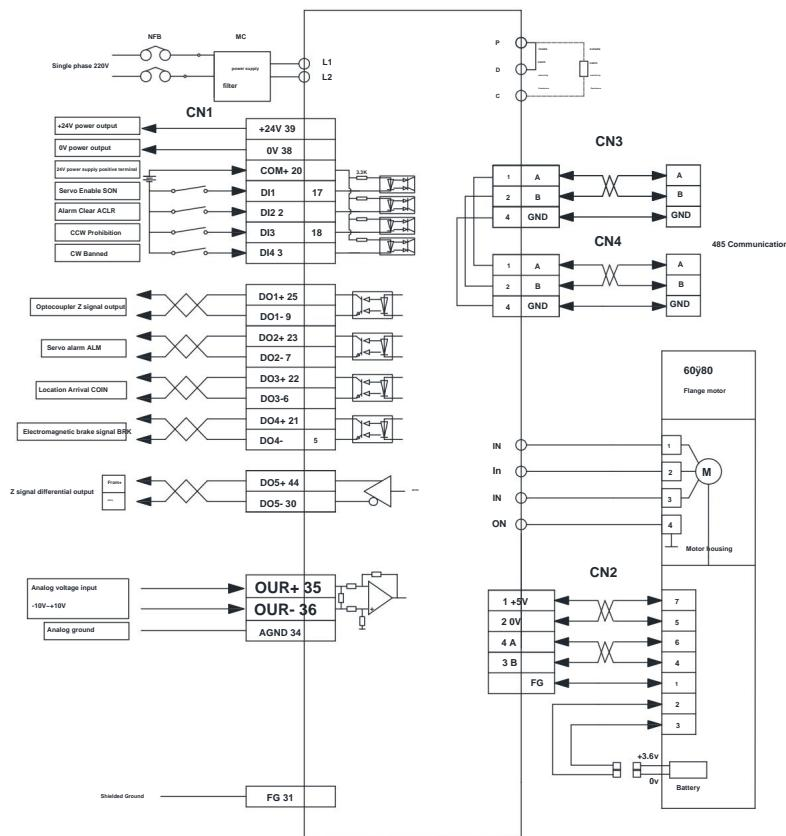

Figure 5.6 Torque mode wiring diagram
- 3) Refer to Figure 5.6 for wiring instructions to connect the required DI/DO signals in the CN1 terminal, such as servo enable signal, etc.